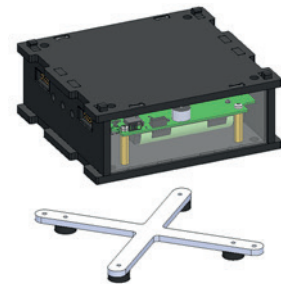

Fig. 99: Mounting the base plate
1) Take the bottom base plate preassembled with instrument support feet (4 pcs.) and M3x5 cylindrical-head screws (4 pcs.) and place the first module on top of it so that four threaded holes in the base plate would match four holes in the module. The picture below (Fig. 99) shows the PSS module: